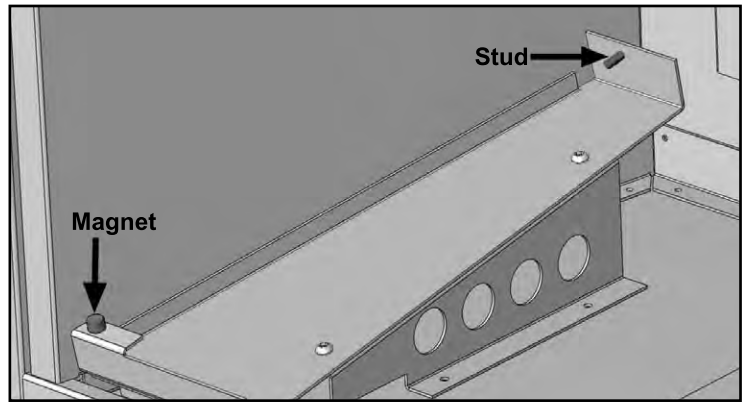
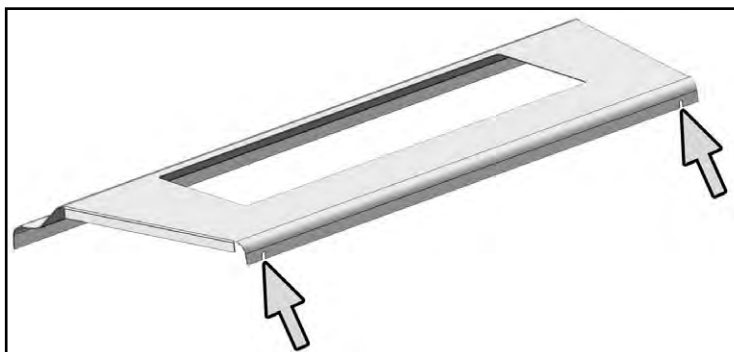

Figure 99: Permanent Magnet on Left Burner Cover Support.
Figure 100: Slots in Back of Burner Cover.
8. Place one of the Permanent Magnets provided on the front edge of the Burner Cover Supports as shown in Figure 99.
11. The Burner Cover has two (2) slots, one on either side of the rear flange (refer to Figure 100). These slots fit over the two (2) studs in the firebox (refer to Figure 99) to keep it in place.